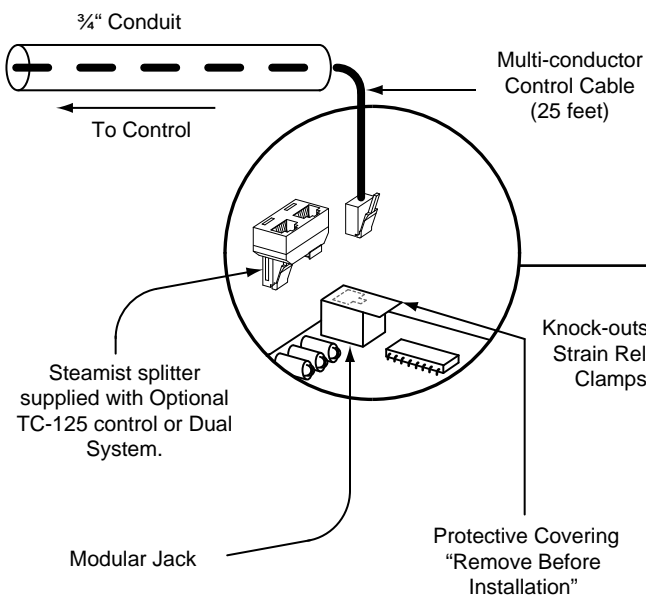

Figure 2
- a) Remove the multi-conductor cable from the control packing box. Carefully route the multi-conductor control cable from the steam generator to the TC-150 located inside the steamroom (see Figure 2). Route multi-conductor cable through a ¾" conduit to protect the cable from damage and to facilitate replacement if necessary.
- Locate the previously installed cable and black plastic strain relief clamp which is in the control packing box. Locate the knock-out on the steam generator for the control cable (see Figure 2).
- If TC-150 is used in conjunction with the optional TC-125 control or Dual System, plug the splitter into the modular jack, this will allow two cables to be plugged into the PC board (see Figure 2).
- Locate Telco Jack at female coupler, on back of the TC-150 control. Remove the protective covering labeled "Remove before Installation". Remove protective cap from cable and plug into jack. Check that the orientation of the plug properly aligns with the jack. A snap will indicate the plug is installed correctly (see Figure 2).